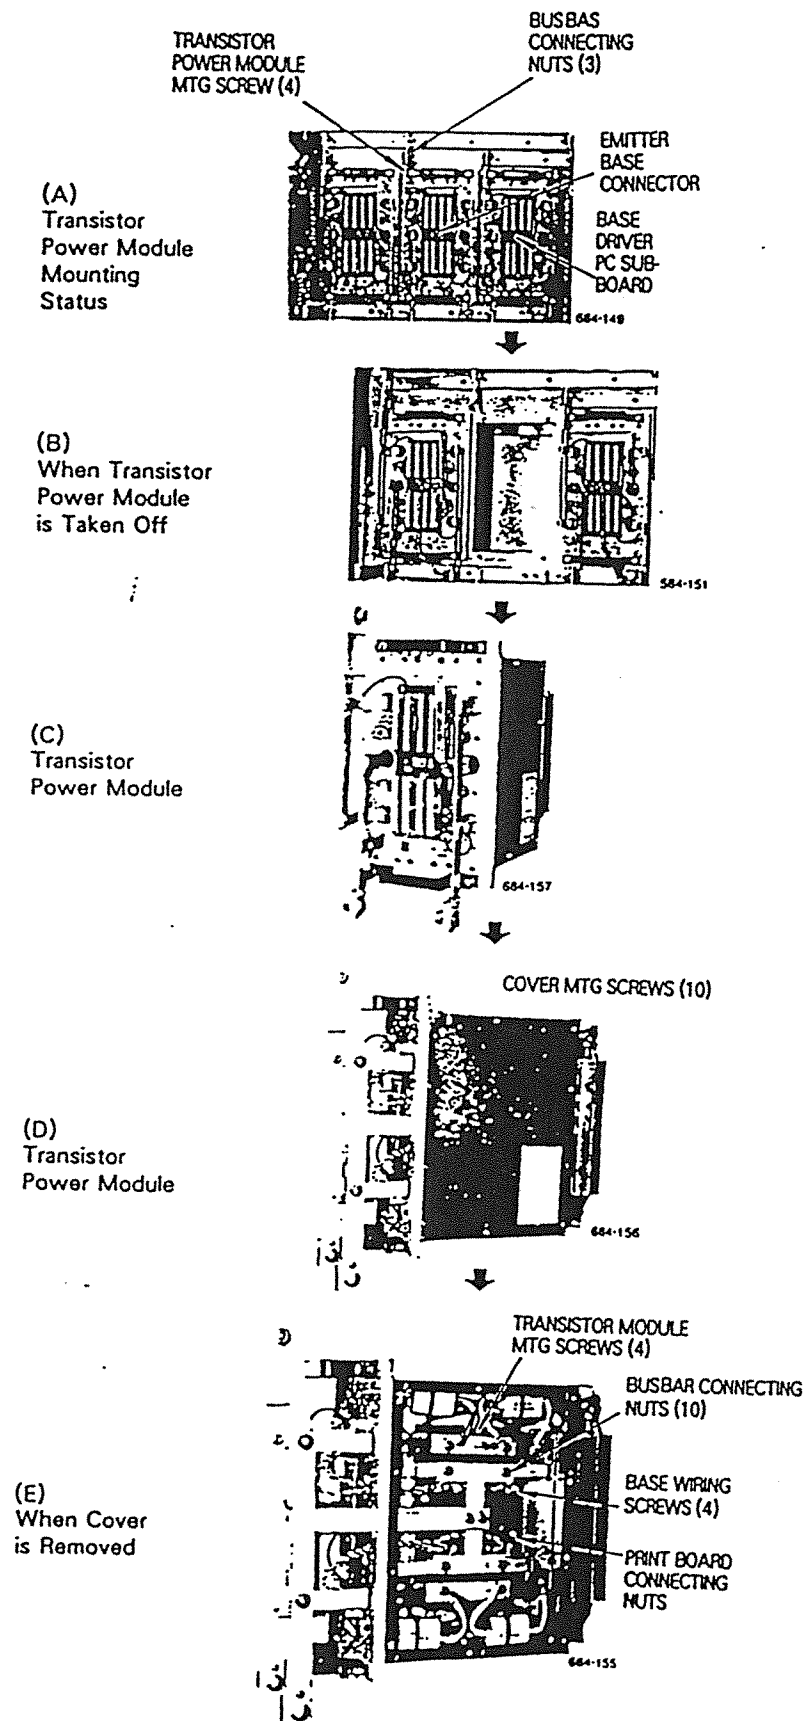

Fig. 11.11
- ① Pull out emitter base connector on the base driver PC Sub-board.
- ② Loosen three busbar connecting nuts and four power module mounting screws. See Fig. 11.11(A).
- ③ Take off the power module with care not to damage any parts. See Figs. 11.11(B) and (C).
- ④ Remove the ten mounting screw of power module side cover. See Fig. 11.11(D).
- ⑤ Remove ten busbar connecting nuts, four base wiring screws and print board connecting nuts.
- ⑥ Remove four transistor mounting screws to take off the transistor module. See Fig. 11.11(E).